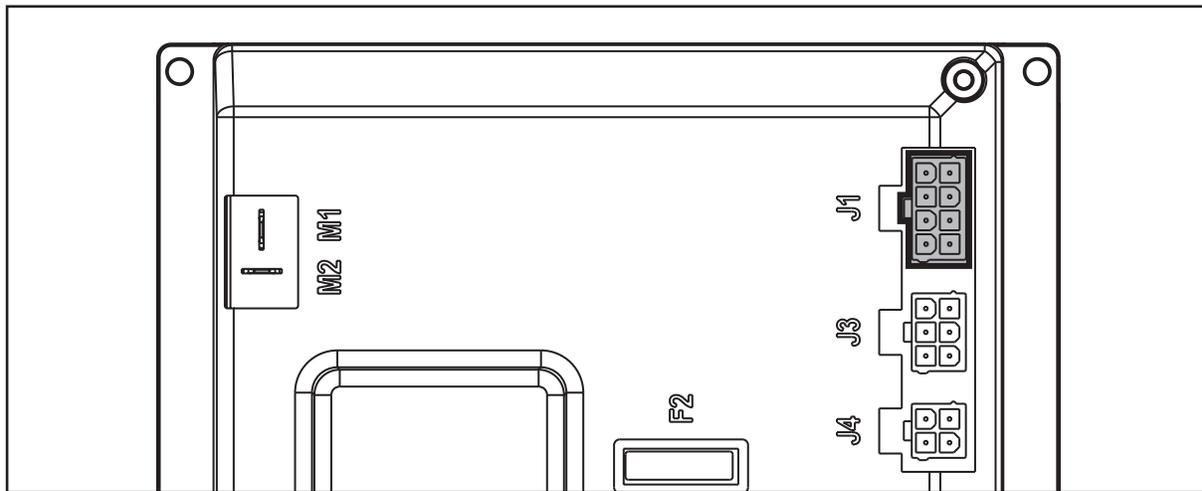

Figure 22
**(Figure 22) J1: MOLEX MINIFIT type, 8-ways vertical**